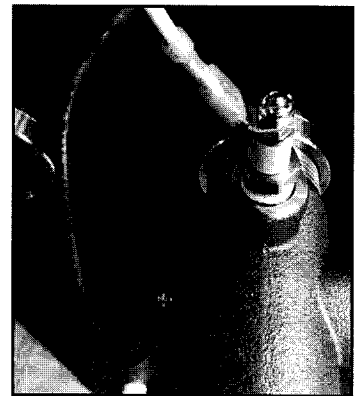

Figure 7 - Installed LWCO
5. Attach the spade connector from the wire harness to the LWCO probe. Use a Phillips Head screwdriver and the included screw to attach the grounding wire to the combination outlet fitting. See Figure 7.